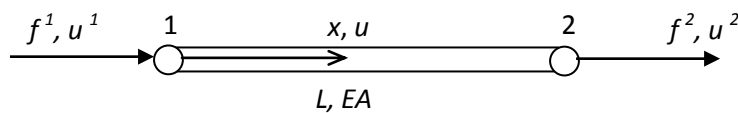

Figure 4
4. (a). State the **FOUR** basic conditions on displacement fields that a conforming finite element must satisfy. Elaborate the four basic conditions stated above using the simple 1D bar element shown in Fig.4. It is given that the displacement field adopted for the bar element is $u=A_0+A_1 x$ where u is the axial displacement in x-direction, A_0 and A_1 are constants.